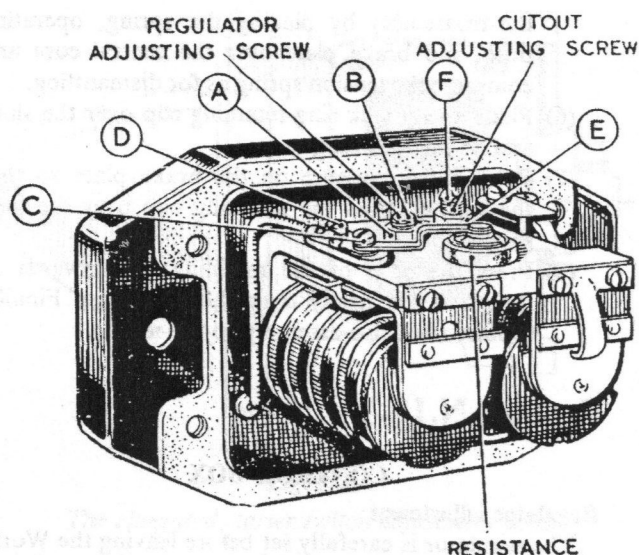

Fig. N.11
Shut off the engine and remove the control box. Disconnect the plug-in connectors by removing the two screws and release the two screws and brackets securing the cover to the base. Temporarily remake the connections. When refitting the cover ensure that it locates on the rubber sealing washer and firmly secure with the two screws and brackets. Release the locknut (A) (Fig. N.11) holding the adjusting screw (B) and turn the screw in a clockwise direction to raise the setting or in an anti-clockwise direction to lower the setting. Turn the adjusting screw only a fraction of a turn at a time and then tighten the locknut. Repeat as above until the correct setting is obtained.
screw (c) (Fig. N.11) a little more than the lower (d), so that the contact plate can be swung outwards. Clean the contacts by means of a fine carborundum stone or fine emery-cloth. Carefully wipe away all traces of dirt or other foreign matter. Finally, tighten the securing screws.
If the cut-out has become out of adjustment and operates at a voltage outside these limits it must be reset. To make the adjustment slacken the locknut (E) (Fig. N.11) and turn the adjusting screw (F) a fraction of a turn in a clockwise direction to raise the operating voltage or in an anti-clockwise direction to lower the voltage. Tighten the locknut after making the adjustment.